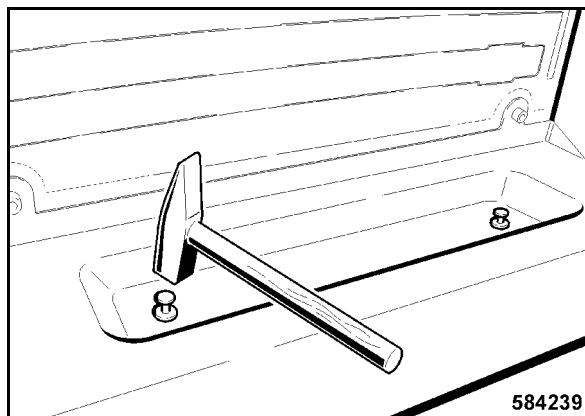

Fig. 223
- Insert the rear rack and knock both plastic fasteners carefully into the bores with a hammer (Fig. 223).